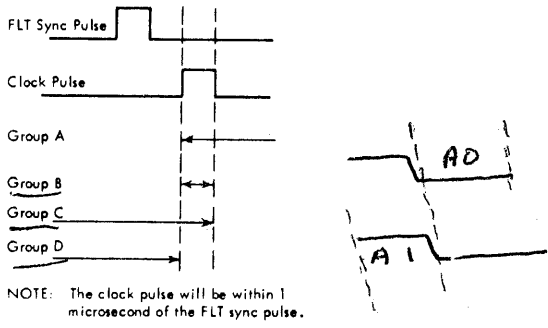

FIGURE 39. ONE-CYCLE TEST SCOPE TIMINGS
(V) of each list contains the values which should exist on these pins if the test passes. The time relative to the clock at which these points should be observed depends on the position of the block within the logic. The four classes defined, together with their observation times, follow. (The clock referred to is the clock controlling the output trigger, and the logic page for this trigger is always given in line AA. See Figure 39.)